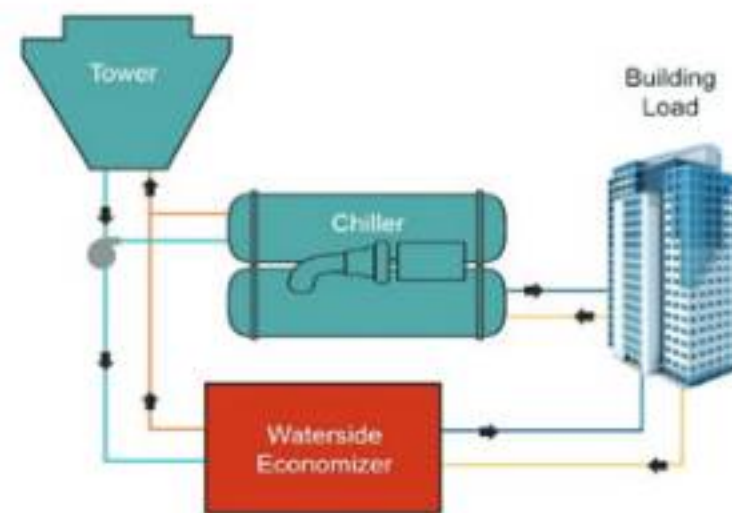

Fig. 20 Water side free cooling
Free cooling uses the evaporative cooling capacity of a cooling tower to indirectly produce chilled water for use in medium temperature loops such as process cooling loops and sensible cooling loops. (Fig. 20)
- If closed process can be used since they usually require less classification level. (Fig. 20)